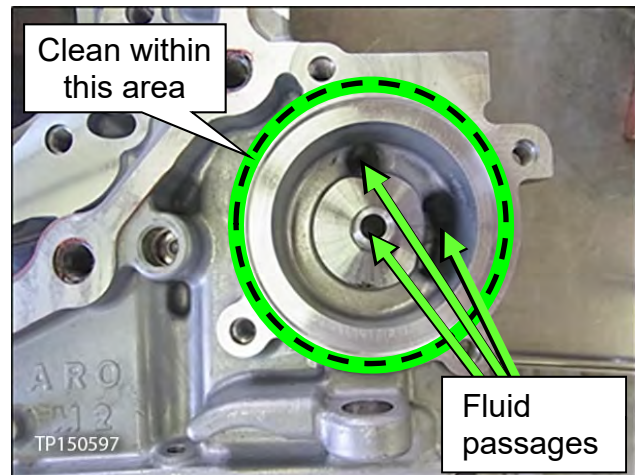

Figure 58
36. Clean the area where the CVT fluid filter fits (Figure 58).
37. Clean the fluid passages to and from the filter (Figure 58).